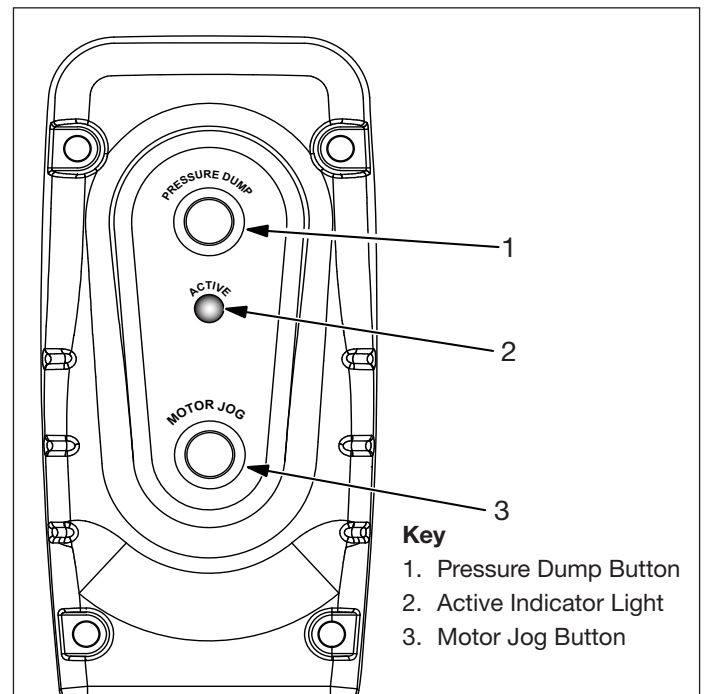

Figure 3, Pendant
Refer to Figure 3.
2. Press the pressure dump button. Refer to Figure 3.
3. Check that the pressure gauge indicates zero (0) psi/bar.
Operate the pump as described in the following steps. Refer to Figure 3 for a diagram of the pendant controls.